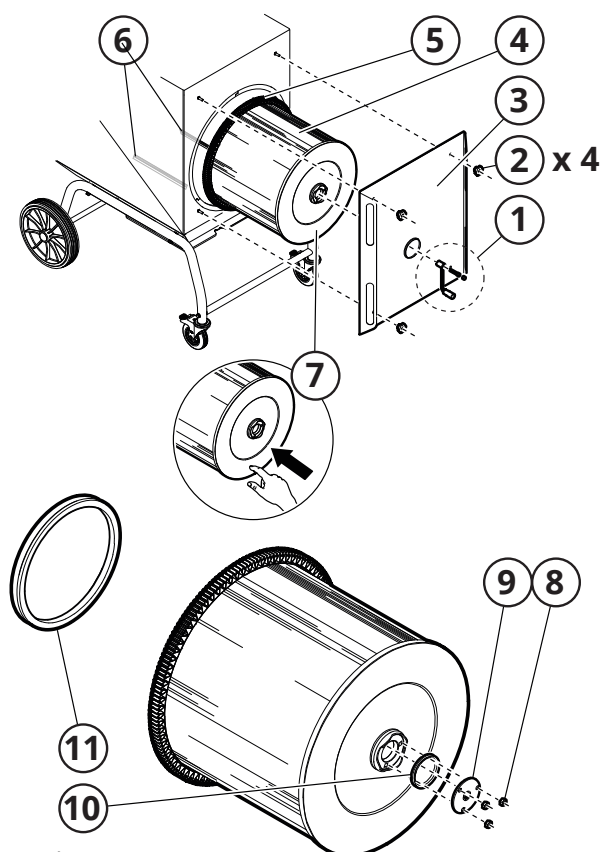
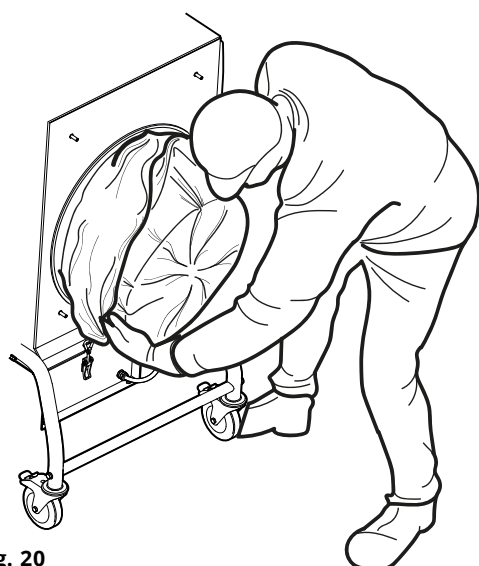

Fig. 19
Fig. 20
1. Unscrew and detach the crank, see part 1, **Fig. 19**.
2. Unscrew (2) and remove the filter hatch (3).
3. Remove the nuts (8), mounting plate (9), and small sealing strip (10). Set aside for refitting to the new cartridge filter.
4. Drape Filter Bag CMF PCW3 over the filter cartridge, see **Fig. 20**. Make sure the filter bag does not get stuck on the brushes under the filter cartridge.
5. Remove the filter cartridge (4, **Fig. 19**) and filter bag from the assembly. Set down on the floor with filter end (7) downwards.
6. Remove the large sealing strip (11) and set aside for refitting to the new cartridge filter.